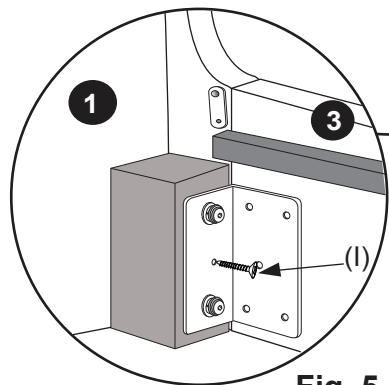

Fig. 5
Next secure the bracket with Screw 3.5x18mm (I) on the Headboard (1) and Footboard (2) as shown in fig. 5. Attach the metal clip on the Headboard (1) to the Side Rail (3) and make any adjustment needed. Ensure all parts align together and secure with Screw 4x25mm (F) as shown in fig. 6.